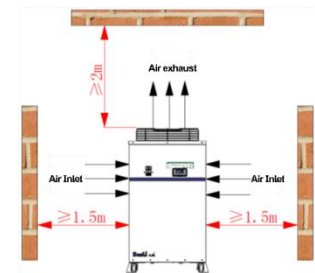

Figure 6-2 Equipment
- There must be no obstructions within 1.5m of the air inlet and 2.0m of the air exhaust to avoid affecting the heat dissipation of the equipment , as shown in Figure 6-2.